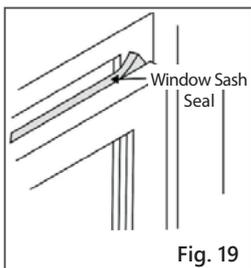

Fig. 19
- Trim sash seal to fit window width. Insert into space between upper and lower sashes (Fig. 19).